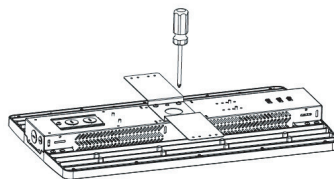

FIGURE 4
Step 1: Attach the bracket to the back of the light fixture (see Figure 4).